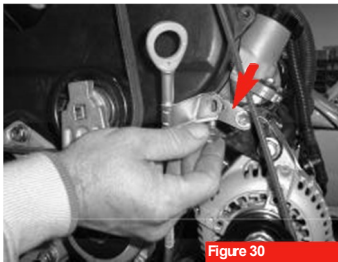

Figure 30
19. Remove the bolt holding the manifold to the intake chamber stay (see arrow, figure 30). Save the bolt.
9. Install the supplied dipstick relocation bracket (see arrow, figure 30) utilizing the factory bolt. Reinstall the factory dipstick and attach it to new bracket using the supplied bolt (6mmx 1.0x 12mm).